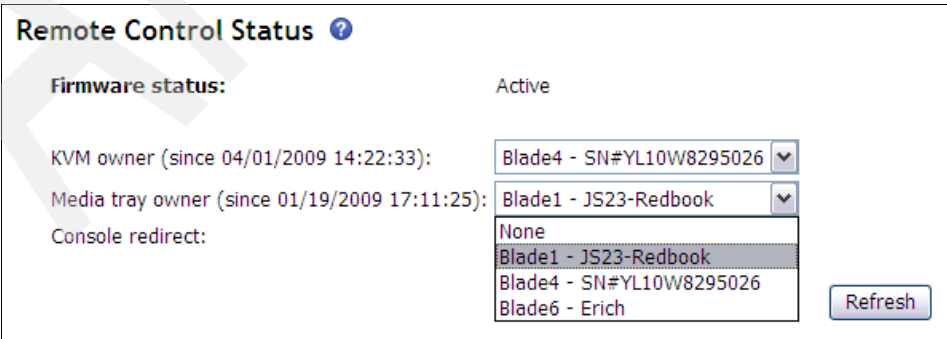

Figure 8-1 Remote Control window - assign media tray
2. In the right panel, select your blade bay location from the Media tray owner drop-down menu, which lists the various blade bays, as shown in Figure 8-1.